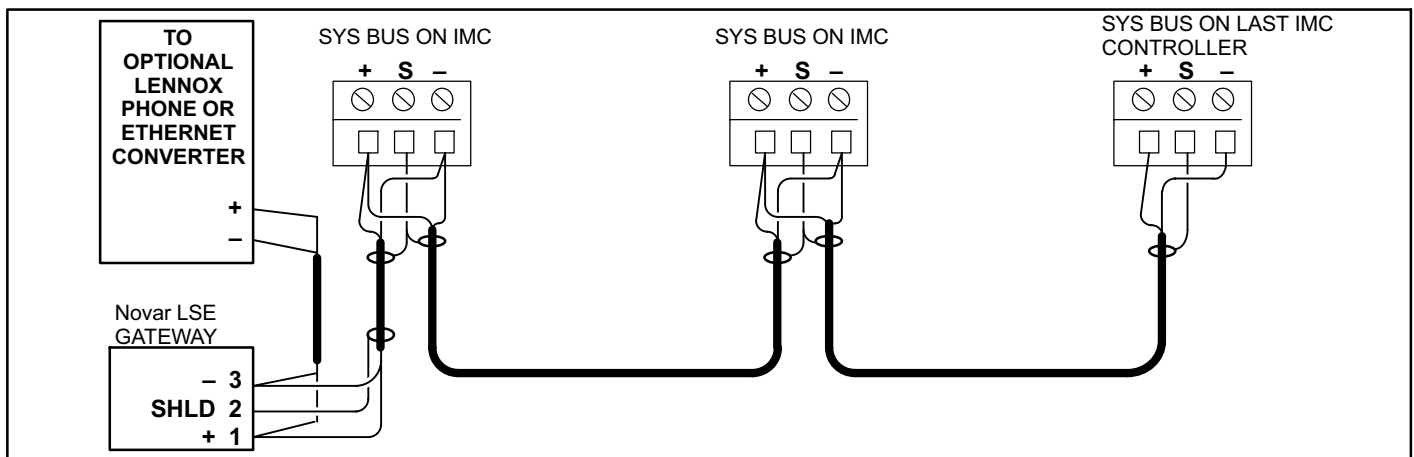

Figure 1. Network Daisy-Chain Communication Wiring
2. Make wire connections as shown in figures 1 and 4. When more than one IMC controller is used in the same network, daisy-chain the communication wires to other IMC SYS BUS terminal blocks.
3. If optional Lennox remote access phone modem or Ethernet converter is used, wire it to the network and to the Novar LSE gateway connection as shown in figure 1.